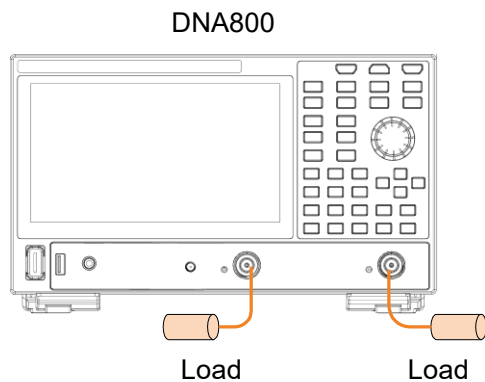

Figure 4.1 Test Device Connection for Raw Directivity
2. Connect a Load match to Port 1 and Port 2 respectively, as shown in Figure 4.1.